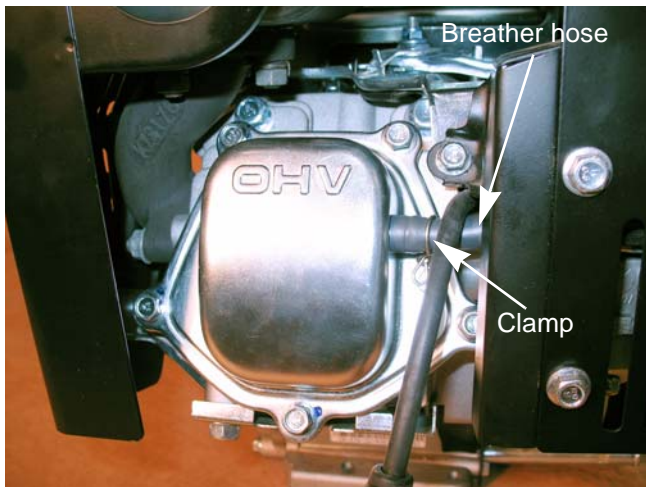

Figure 5.7
2. Squeeze the spring clamp that secures the breather hose to the valve cover nipple and slide it back. Then remove the breather hose from the valve cover nipple. See Figure 5.7.